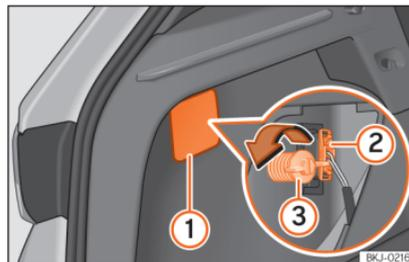
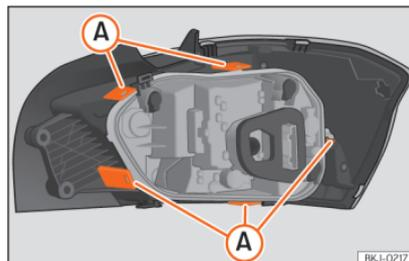

Fig. 60 Luggage compartment: access to the bolt securing the tail light unit.
Fig. 61 Retaining tabs on reverse side of tail light.
- Remove the lid, levering the flat side of a screwdriver into the recess »» Fig. 60 ①.
- Remove the bulb connector ②.
- Unscrew the light securing bolt ③ by hand or using a screwdriver.
- Remove the bulb holder unlocking the retaining tabs »» Fig. 61 A.